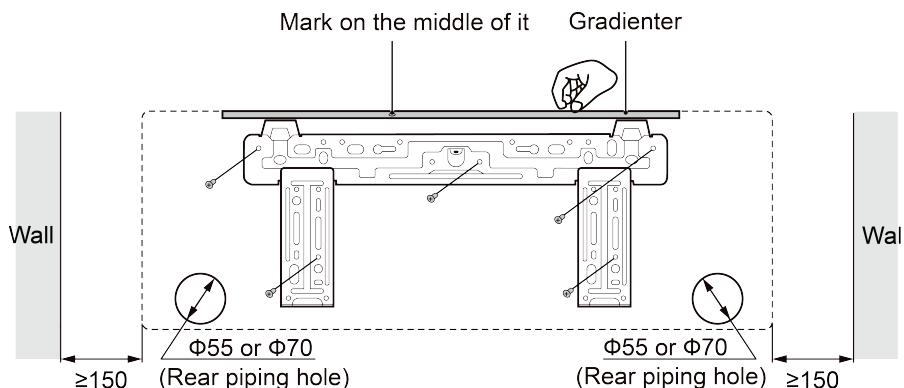

Fig 4.2
- ① Find the horizontal position with the gradienter; Since the drainage pipe is on the left side, it is necessary to adjust the rear panel to make its left side a little bit lower.
- ② Fix the rear panel on the wall by bolts.
- ③ After installing the rear panel, pull it by hands to check if it is secured enough. The hang panel should support the weight of an adult (60kg), and the weight shared by every bolt should be fairly even.
- ④ The diameter showed in Fig.4.2.
- (1) Make the piping hole ($\Phi 55\text{mm}$ or $\Phi 70\text{mm}$) in the wall at a slight downward slant to the outdoor side. The center of the hole should be determined referring to Fig.4.2.
- (2) Insert the piping-hole sleeve into the hole to prevent the connected piping and wiring from being damaged when passing through the hole.